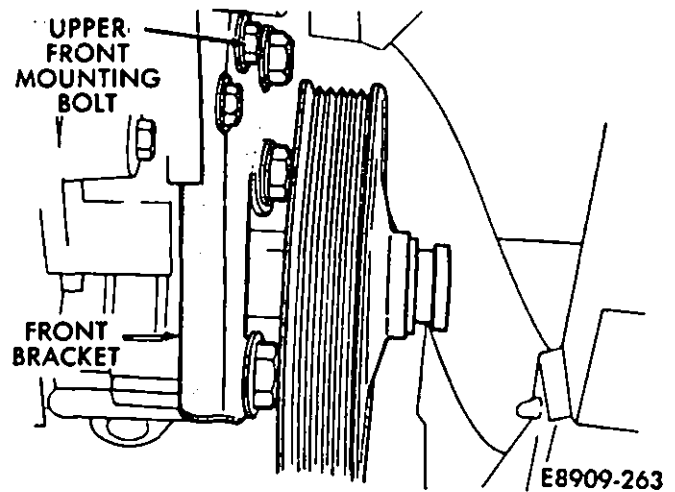

Fig. 28—Upper Front Mounting Bracket Bolt
(17) Thread the lower front mounting bolt in a couple of threads.
(18) Start the nut on the stud. Finish tightening the lower front mounting bolt to 40 N·m (30 ft-lbs) torque.
(19) Tighten the stud nut to 40 N·m (30 ft-lbs) torque.
(20) Install the upper front mounting bolt. (Fig. 28). Tighten the bolt to 27 N·m (20 ft-lbs) torque.